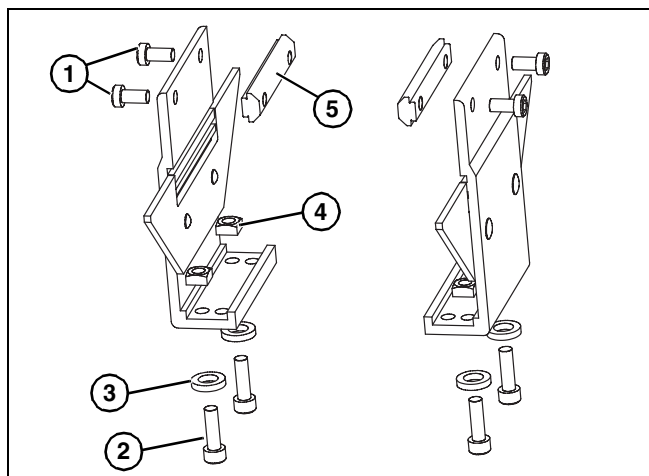
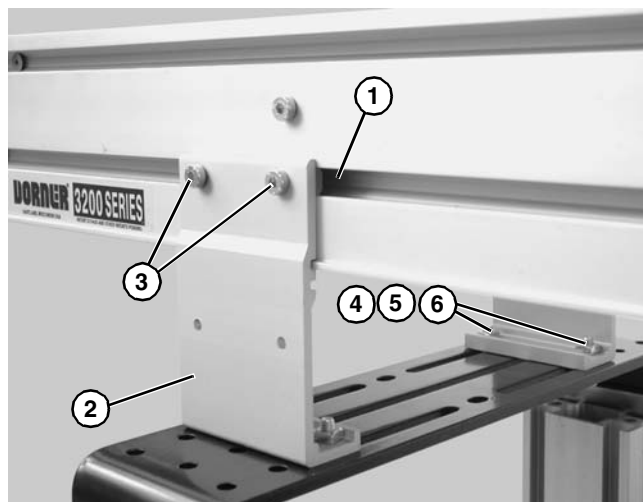

Figure 11
Figure 12
1. Locate brackets. Exploded views shown in **Figure 11**.
2. Remove screws (**Figure 11, item 1 & 2**), washers (**Figure 11, item 3**), nuts (**Figure 11, item 4**) and T-bars (**Figure 11, item 5**) from brackets.
3. Insert T-bars (**Figure 11, item 1**) into conveyor side slots (**Figure 12, item 1**). Fasten brackets (**Figure 12, item 2**) to conveyor with mounting screws (**Figure 12, item 3**).
4. Fasten brackets to support stand with mounting screws (**Figure 12, item 4**), washers (**Figure 12, item 5**) and nuts (**Figure 12, item 6**).
5. Tighten screws (**Figure 12, item 3 & 4**) to 60 in-lb (7 Nm).